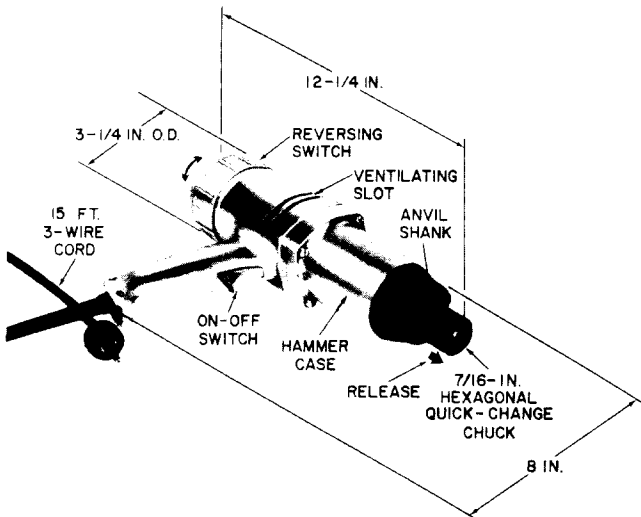
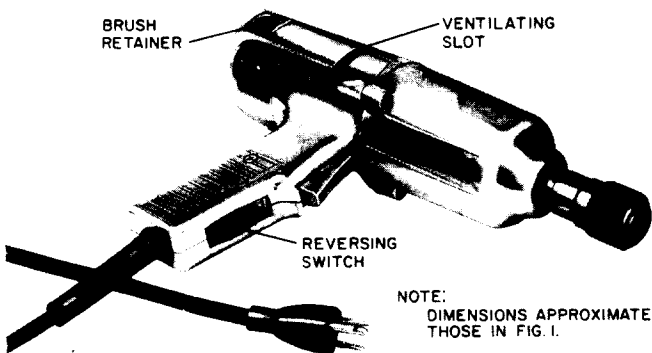

Fig. 1—B Impact Wrench With End Cap Reversing Switch
Fig. 2—B Impact Wrench With Reversing Switch in Handle
<p>1. GENERAL</p> <p>1.01 This section covers the description, care, maintenance, and general use of the C impact wrench. The B socket and B and C power bits used with this wrench are described.</p>	<p>1.02 This section is reissued to rate the B impact wrench (MD) and to add some minor revisions. This and other additions to the text are indicated by change arrows.</p> <p>1.03 The wrench and socket are used in placing or removing nuts and drive screws of pole-line hardware. The bits are used in boring holes through wooden objects such as poles, log anchors, and building beams.</p> <p>1.04 Approved double insulated power tools do not require grounding. All other portable power tools equipped with metal housing must be effectively grounded per Section 620-103-010.</p> <p>1.05 The inspection, maintenance, and general use of B and C power bits are covered in Section 081-745-105.</p> <p>2. DESCRIPTION</p> <p>B IMPACT WRENCH (MD)</p> <p>2.01 The B (MD) impact wrench (Fig. 1 and 2) operates on 115 volts ac or dc, develops about 150 foot/pounds of torque, and is reversible. The wrench is a 1/2-inch capacity tool, equipped with a 7/16-inch hexagonal quick-change chuck, pistol-grip handle, nonlocking on-off trigger switch, reversing switch, 15-foot 3-wire cord, and 3-prong plug. One wire connects the grounding prong of the plug to the case of the wrench.</p> <p>2.02 The direction of rotation of the chuck is determined by the position of the reversing switch.</p>
- 3.03 The life of the motor of these tools depends upon proper lubrication and ventilation. Be sure the ventilating slots (Fig. 1, 2, and 3) are clean.
4.06 Before using the wrench, place a few drops of machine oil around the shank of the anvil (Fig. 1) where it emerges from the bushing at the front of the hammer case. Hold the wrench with the chuck uppermost.
- 7.04** When changing the direction of rotation, make sure that the reverse cap (Fig. 1) is turned as far as it will go or reversing switch (Fig. 2 and 3) is fully operated.
- 7.12** ♦Always check the shank to make sure it is not bent out of line with the B socket (Fig. 2). The B socket should be checked for excessive wear. If the B socket shows excessive wear, replace the B socket.♦